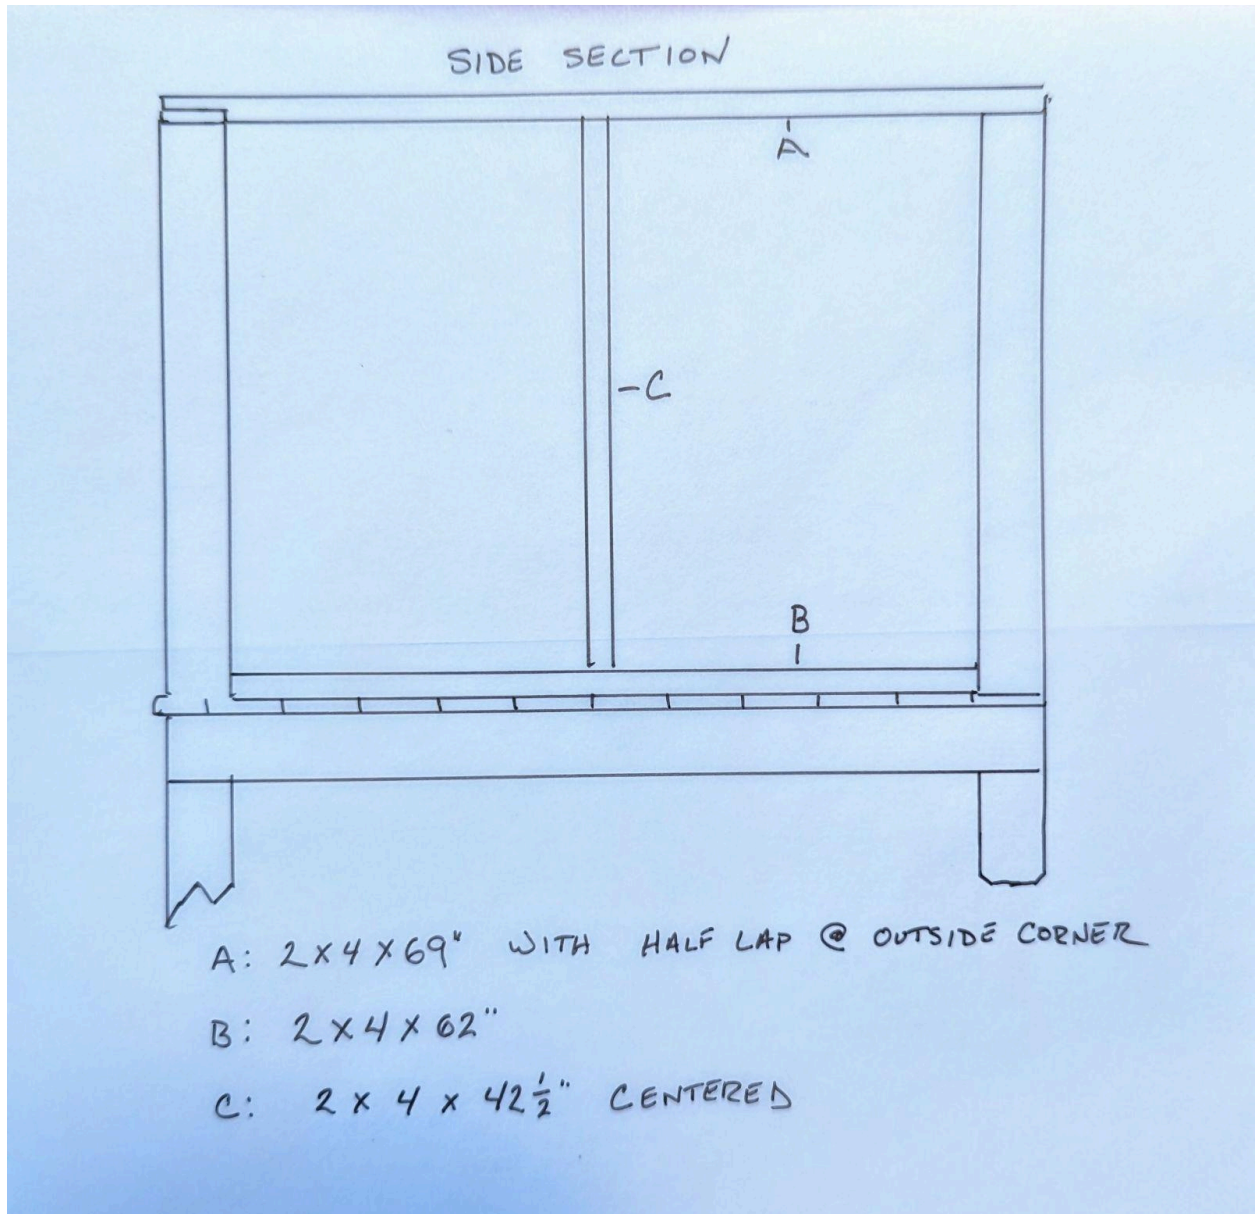

Figure 4
- The front and side wall sections are framed with 2x4's and create the openings that will accept the screened panels in the steps below. See Figures 4&5